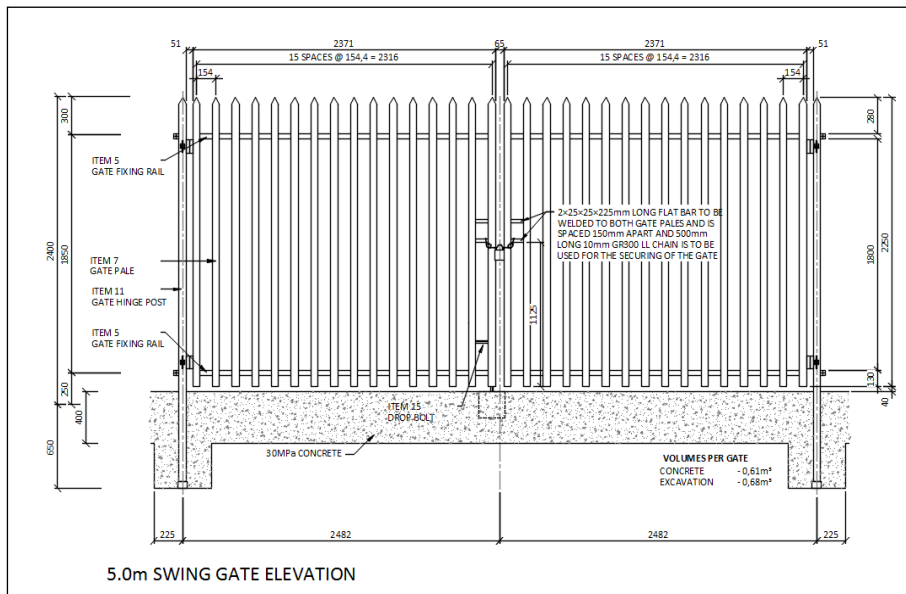

Figure 47: Typical 5.0 m Double Swing Gate Detail
- Figure 47: Typical 5.0m double swing gate detail.